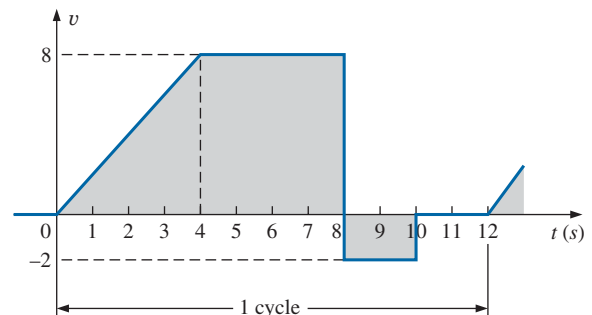

FIG. 13.110
*55. For the waveform of Fig. 13.110: